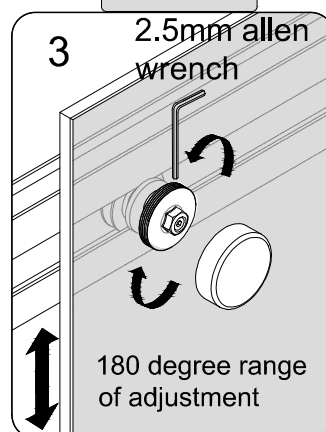

Fig.3
- 3.Adjust rollers up or down to make sure the door align with wall as Fig 3.